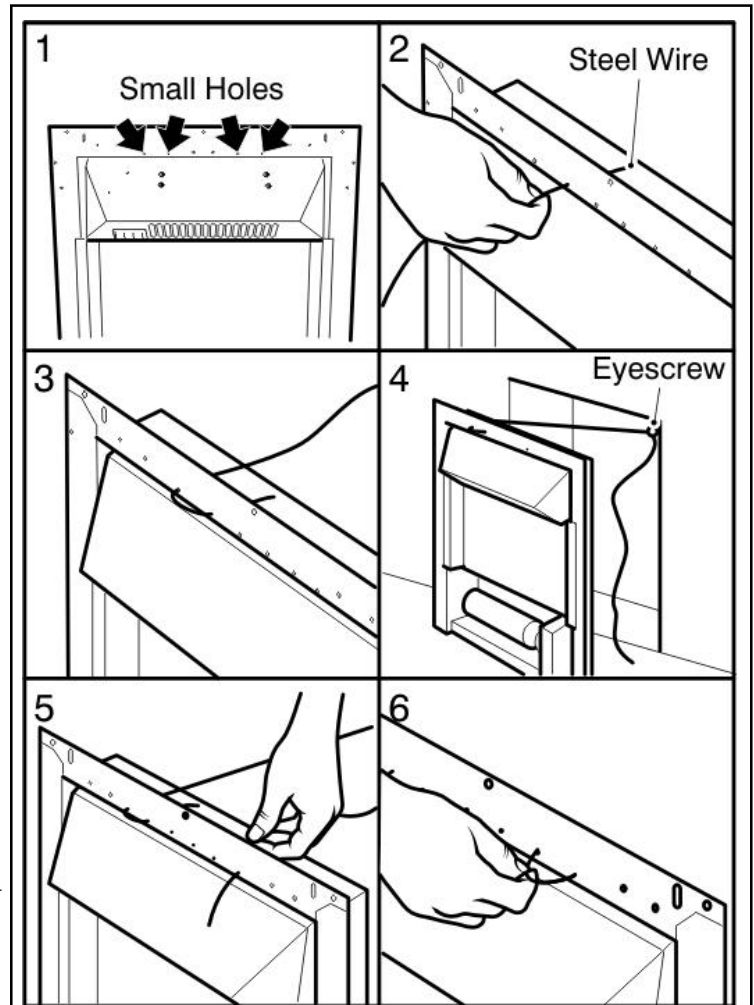

Figure 6. Steel wire fixing
7. At the top of the heater there are four small holes, two each side of the heater (See figure 6- Item 1). From the front of the heater, thread about 50mm (2 inches) of the steel wire into the inside small hole on the left side of the heater (See figure 6 - item 2).
side of the heater. Continue to push the wire through this hole until there is only a small loop of wire at the front of the heater (See figure 6 - item 3).
9. At the back of the heater there will be a long piece and a short piece of wire coming through the two holes. Hold the short piece and give the long piece a gentle tug. This will secure the steel wire. Take the long piece and thread this through the eyescrew in the back of the fireplace opening (See figure 6 - item 4).
10. From the back of the heater thread the long piece of steel wire through the outer small hole on the right hand side of the heater (See figure 6 - item 5).
11. Locate the heater in the fireplace opening, then from the front of the heater, gently pull the steel wire on the right hand side to gather up the excess until the heater is secure. Thread the wire through the remaining small hole to lock the wire and heater in place (See figure 6 - item 6).